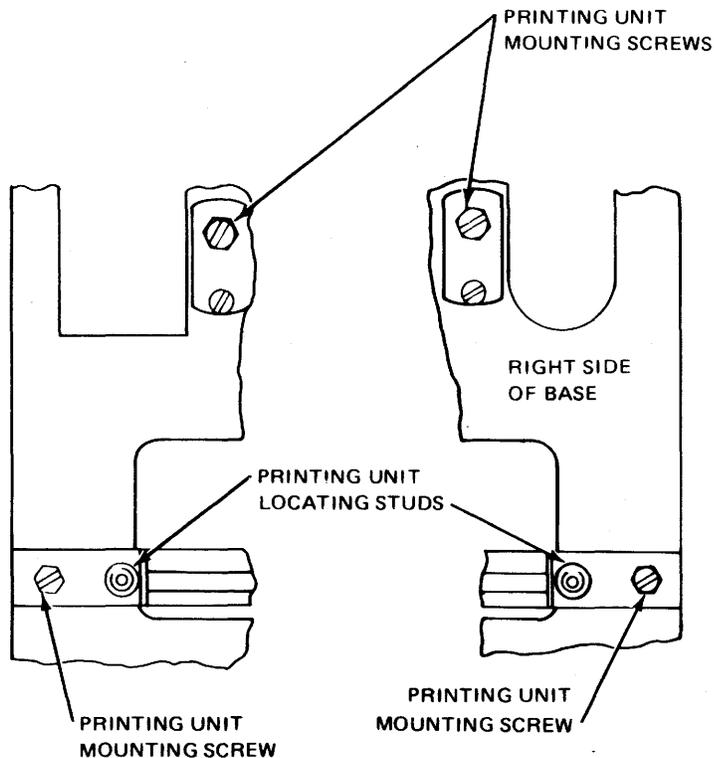

Figure 6-51. Mounting Printing Unit on Base (Top View).
6-52. Keyboard Printing Unit Removal and Replacement. To replace the keyboard printing unit, see figures 6-51 and 6-52, and proceed as follows:
- a. Remove four mounting screws that fasten printing unit to base (see figure 6-51).
- c. Mount printing unit on base (see figure 6-51).
- i. Reinstall and tighten four mounting screws (see figure 6-51).